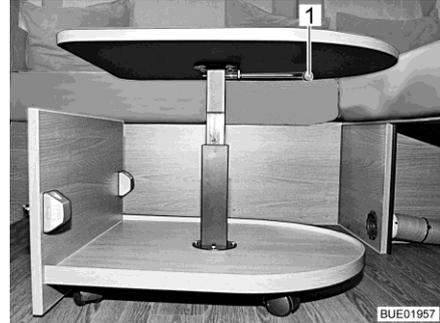

Fig. 136 Coffee table, extended
- Turn the catch lever (Fig. 136,1) 90° downwards.